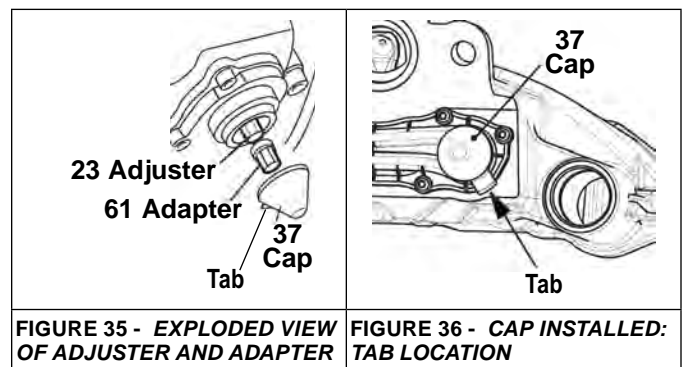

FIGURE 35 - EXPLODED VIEW OF ADJUSTER AND ADAPTER
For illustration purposes, the exploded view (Figure 35) shows the adjuster (23) and shear adapter (61) separated. When using the adjuster mechanism, always have the shear adapter installed on the adjuster.